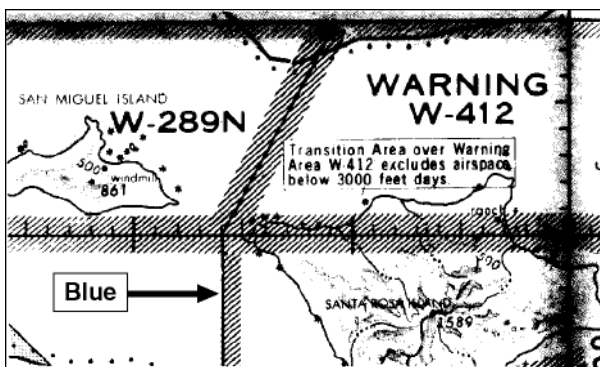

Figure 3-13. Warning Area
**Warning Areas and Alert Areas.** (Figures 3-13 and 3-14) These areas also involve the military. Warning Areas have the same kinds of hazards as Restricted Areas but are offshore in international waters. No specific permission is required, but keep your eyes open. Check their status with FSS. Alert Areas involve a high volume of training activity. Again, no clearance is required, but extreme vigilance (or avoidance) is. Altitude and hours of operation for alert areas are typically provided along the fringes of sectional charts.